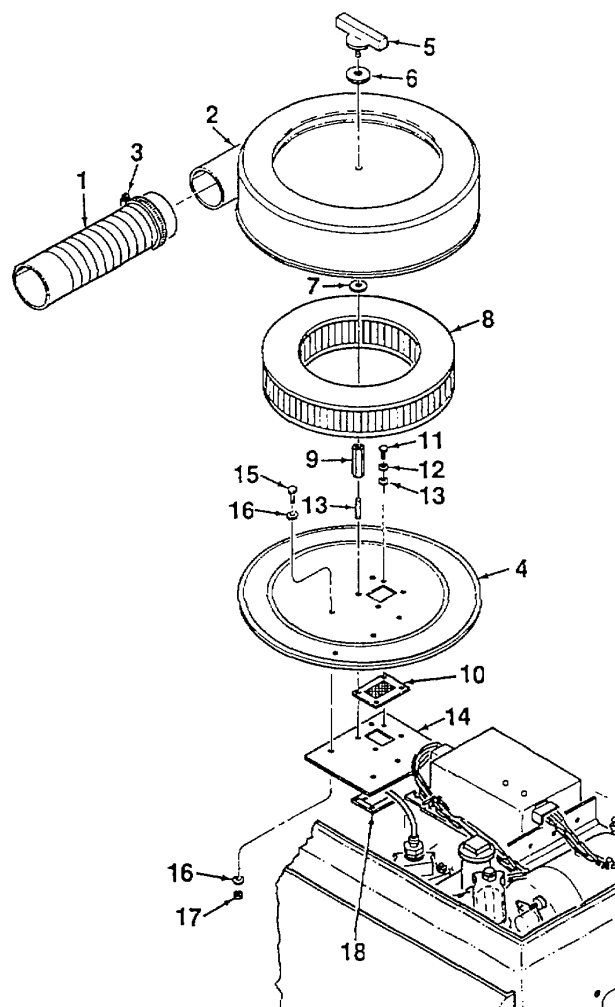

Figure 4-33. Engine Air Filter
2. Disconnect engine air hose (1, Figure 4-33) from air duct on inside wall of APU enclosure.
3. Release filter cover (2) from filter base (4) by unscrewing wing screw assembly (5).
4. Remove filter cover (2) and filter (8) from filter base (4). Remove wing screw assembly (5), washer (6), and retainer (7) only if replacement is required.
5. Remove filter base (4), backing plate (14), and gasket (18) by removing nut (9), three bolts (11), and three lockwashers (12). Remove set screw (13).
6. If replacement of intake guard (10) is required, remove filter base (4) from backing plate (14) by removing three screws (15), six washers (16), and three nuts (17).
**Screws (15, Figure 4-33) are installed from different sides of the filter base. Screw in rear hole mounts from the top of the filter base. Two screws in front holes mount from below the filter base.**
1. Mate filter base (4) to backing plate (14). Secure using three screws (15), six washers (16), and three nuts (17).
2. Apply loctite adhesive to threads of bolts (11) and both ends of setscrew (13). Install filter base (4) and backing plate (14) using three bolts (11) and lockwashers (12). Install setscrew (13) and nut (9).
3. If removed, install wing screw assembly (5) and washer (6) onto filter cover (2) using retainer (7).
4. Install filter (8) and filter cover (2) onto base (4). Ensure filter is properly seated.
5. Secure filter cover (2) to base (4) by screwing in wing screw assembly (5).
6. Connect engine air hose (1) to filter cover (2) and enclosure duct. Secure by tightening clamps (3).